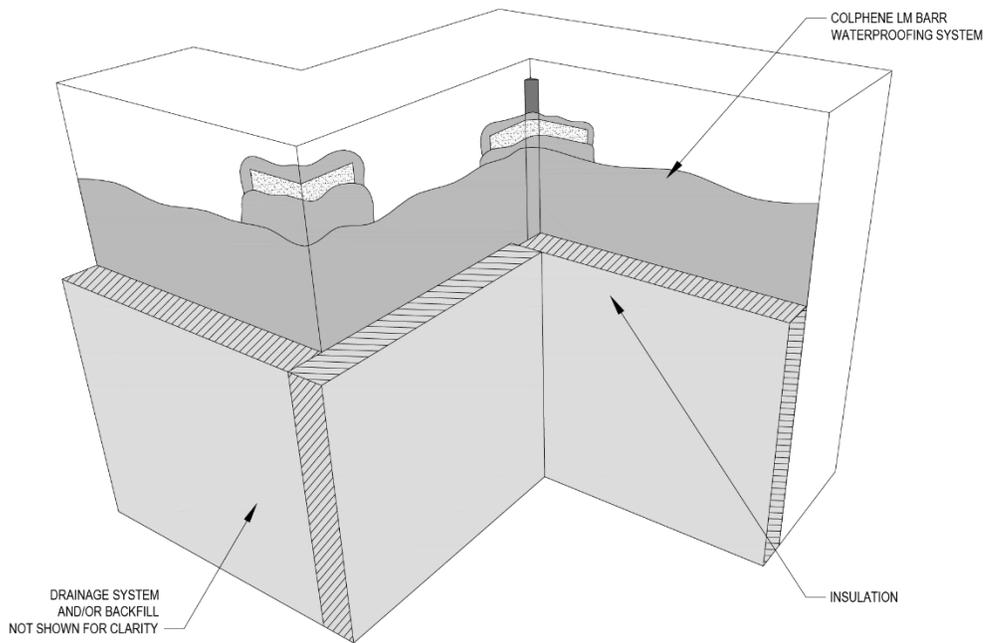
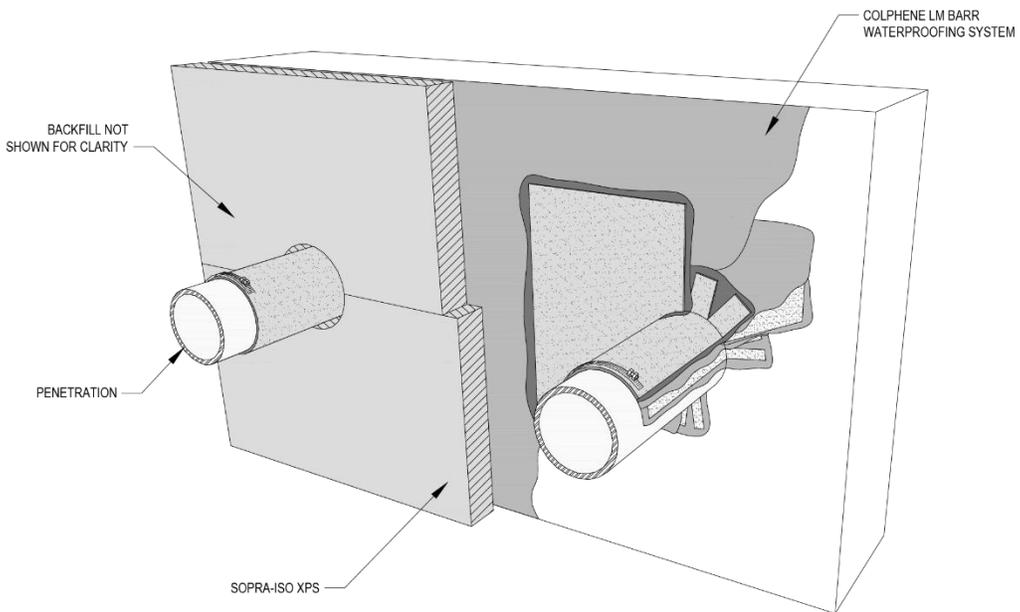
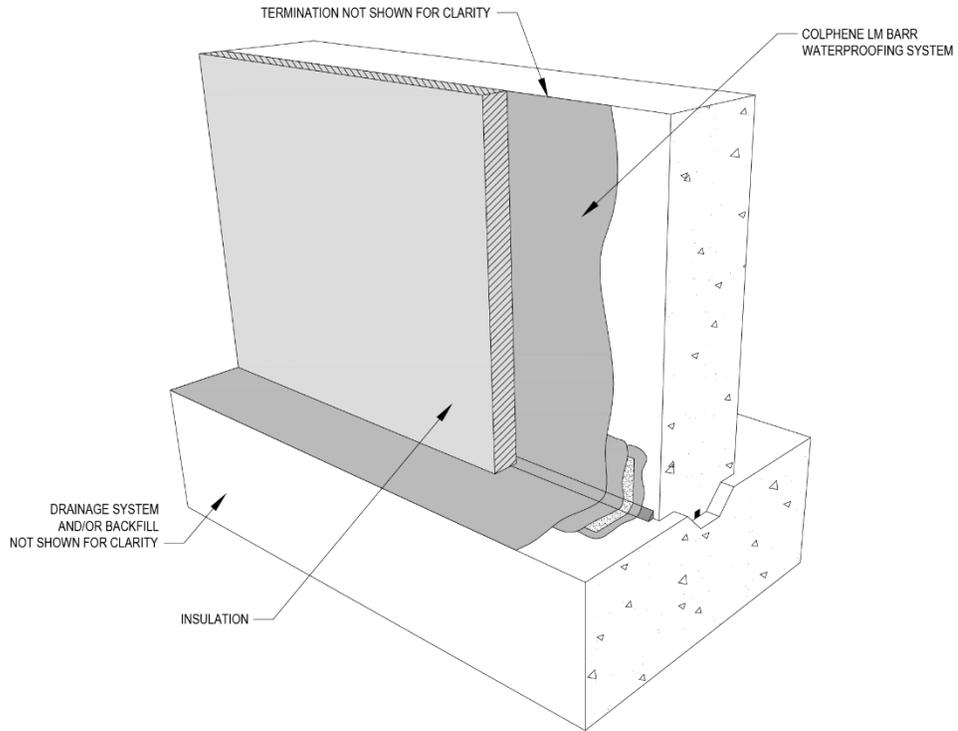

Figure 3.1e Extruded Polystyrene Protection Course At Inside/Outside Corners
Figure 3.1j Extruded Polystyrene Protection Course At Penetrations
Figure 3.1o Extruded Polystyrene Protection Course At Transitions
- Tie filter fabric to penetrations. Refer to Figure 3.1j.
- Cut insulation boards as needed to conform to the foundation wall conditions. Refer to Figure 3.1e, Figure 3.1j, and Figure 3.1o.